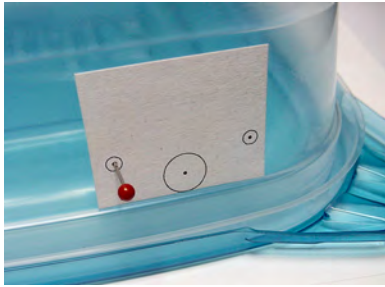

Figure 24-7. Outlines printed on a sticker and placed on the container. Push pin being inserted into each center dot to create pilot holes
5. Cut the labels and closely trim the edge on the side nearest the motor shaft cap circle (see the side below the largest circle in Figure 24-7).
6. Place one label on each side of the container. The motor shaft cap circle should be far enough toward the rear of the container to allow the breadboard to fit toward the front. Also be sure that the larger circle is placed directly against the inner edge of the container lip (again, see Figure 24-7). For Sandwich, the center of the motor shaft ended up about 4.5 cm from the rear lip of the container.
8. Insert and remove a pushpin into the center of each circle on the sticker (again, see Figure 24-7). This creates tiny pilot holes that guide the drill into the centers.